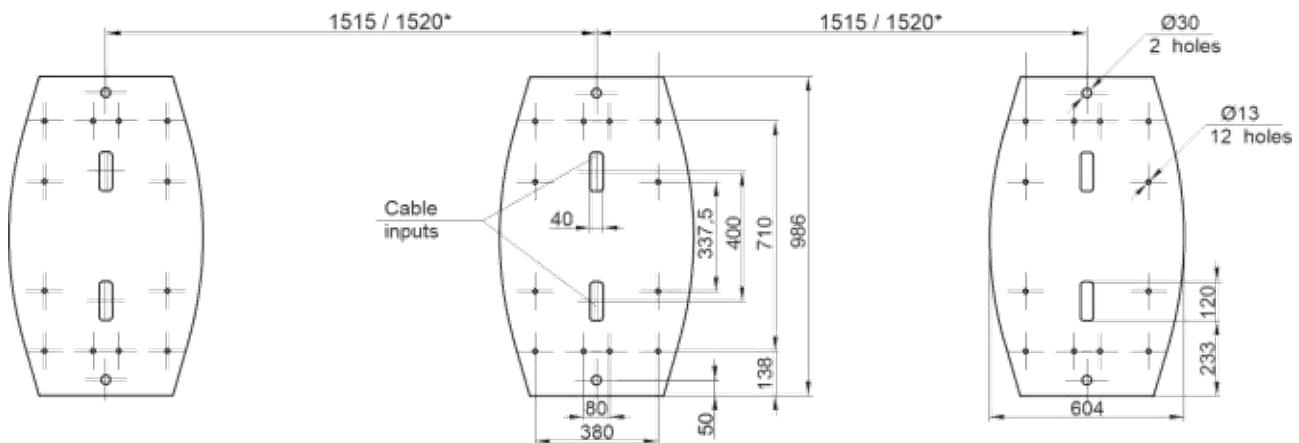

Fig. 13 – Installation dimensions of the set «JETPAN-900-1» and «JETPAN-900-2» turnstile
- Unscrew the two screws that fix the turnstile base to the shipping container from both sides (3) and remove the turnstile from pallet;
- The turnstile fixation holes to be marked on the site surface according to Figure 13. The turnstile itself, located upright at the installation site, can be used as a template
4. - align fixation holes at the turnstile bottom plate with the prepared surface holes according to the marking shown in Fig.13;